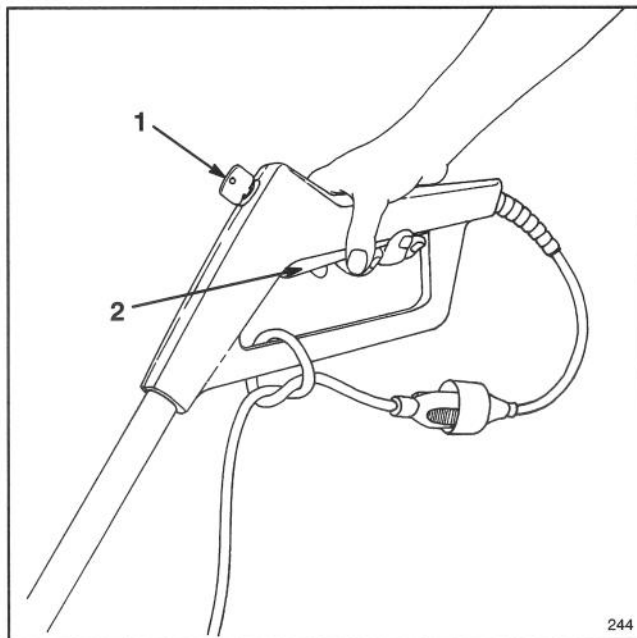

Figure 7
1. Tie extension cord to the lower handle of control grip (Fig. 7) before connecting to the Power Shovel cord. This helps prevent the separation of the cords during operation.
2. Plug the extension cord into a wall outlet and insert key into hole located on the front side of the control grip (Fig. 7).
To start the Power Shovel, install the key and squeeze the switch bar. To stop, release the switch bar (Fig. 7).